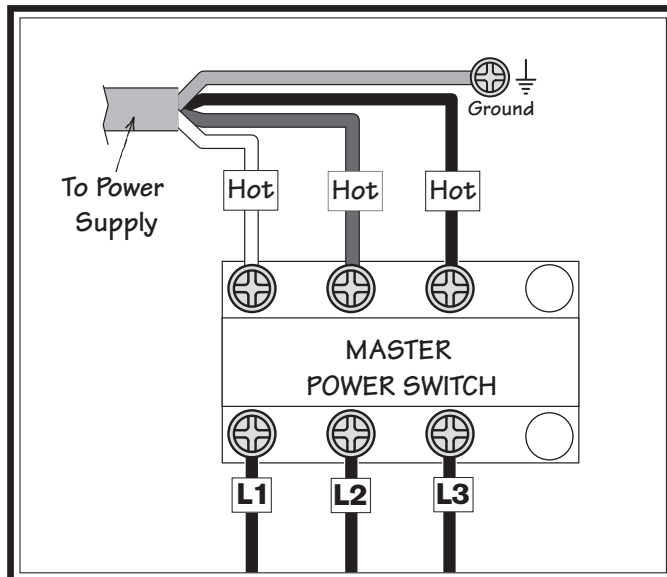

Figure 22. Power connection at master power switch.
3. Connect the incoming hot wires to the upper master power switch terminals and the ground wire to the ground terminal, as illustrated in **Figure 22**.